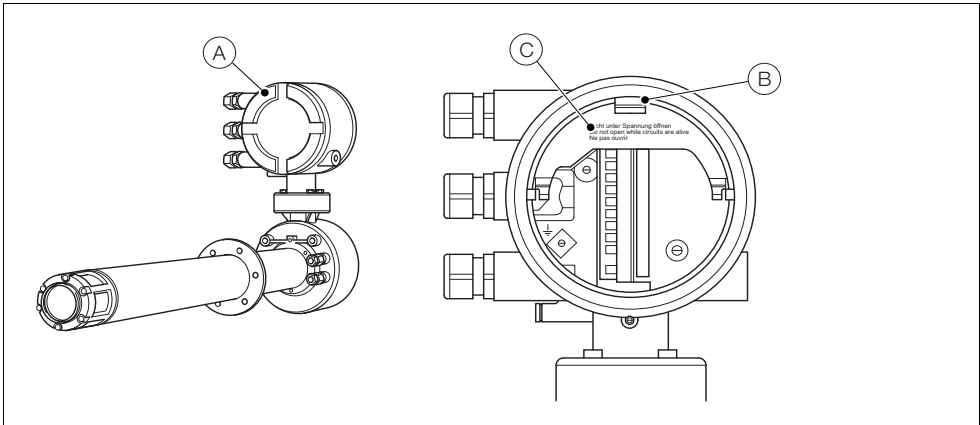

Fig. 4.11 Integral Transmitter – Access to Connections
Referring to Fig. 4.11:
1. Feed the incoming AC power supply cable through cable gland (A).
2. At terminal block (B) make connections to the AC power supply live (brown) and neutral (blue) terminals.
3. Connect the incoming AC power supply earth wire to internal earth connection (C).
4. Close the hinged power supply cover (see Fig. 4.11).
5. Feed the signal cable(s) through cable gland(s) (D) and make connections to the relay output(s), current output and option terminals as required.
6. Refit the rear cover (see Fig. 4.11) and tighten it hand-tight.